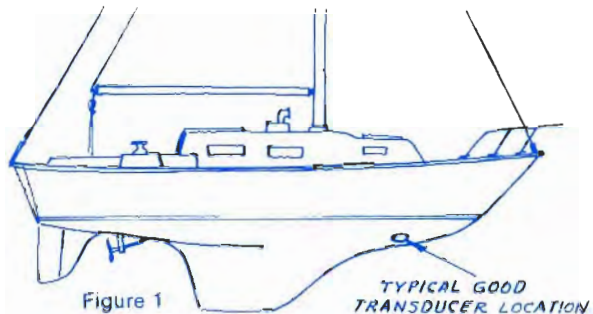

Figure 1
- b). is freely accessible and visible from within the yacht. See figure 1.